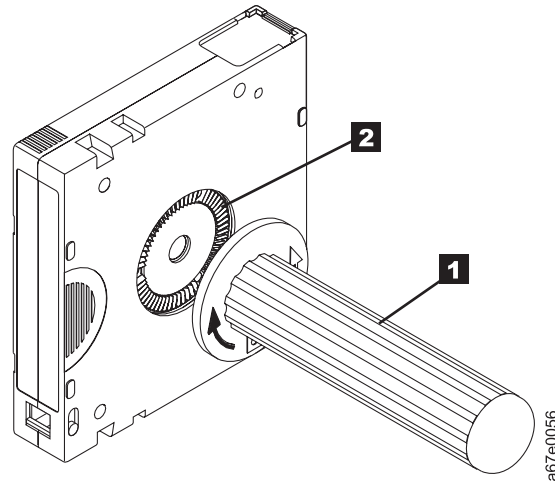

Figure 5-10. Rewinding the tape into the cartridge
5. To rewind the tape, insert the cartridge manual rewind tool (**1** in Figure 5-10) into the cartridge's hub (**2**) and turn it clockwise until the tape becomes taut.